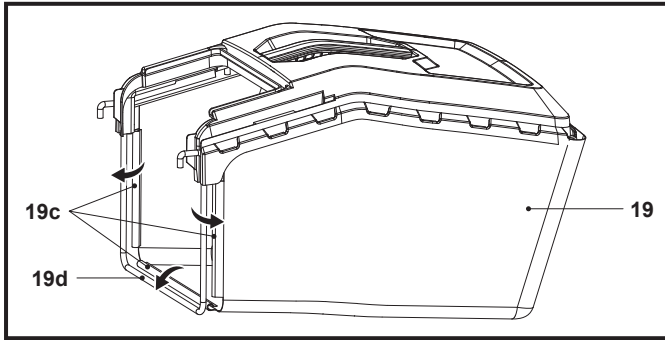

Fig. 5
1. The grass catcher (19) is partly assembled at delivery status.
2. Clip the three rubber clips (19c) onto the supporting rod (19d) of the grass catcher (19) (Fig. 5) and the grass catcher (19) is ready for use.